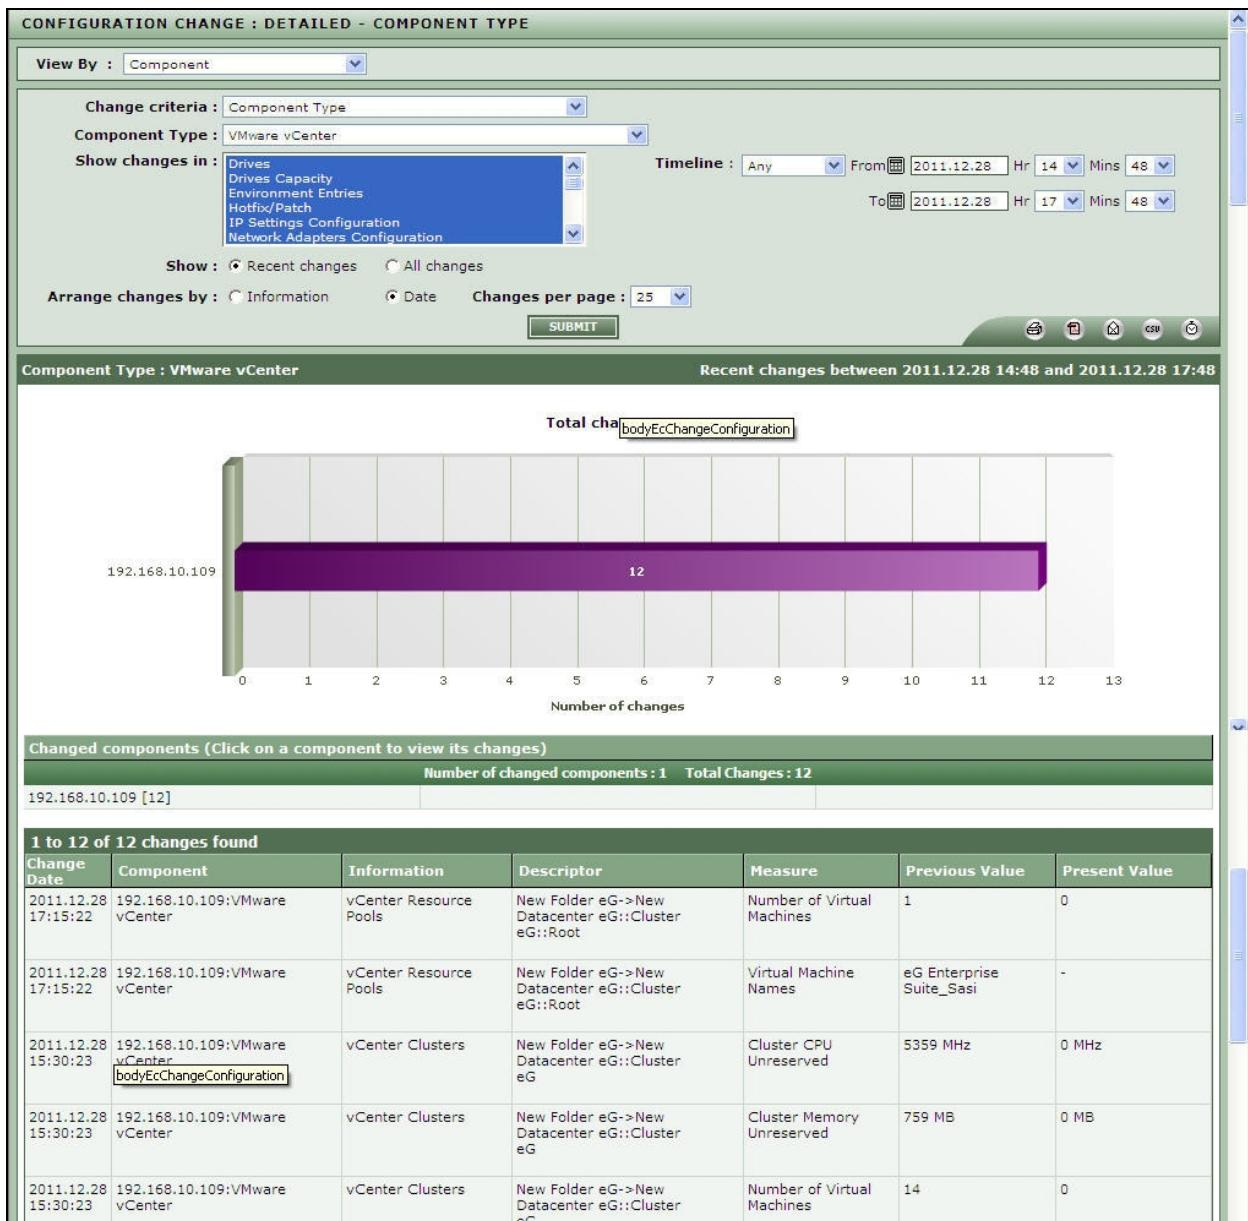

Figure 4.5: Viewing configuration changes for a specific component type
1. Select **Component Type** from the **Change criteria** list box as depicted in Figure 4.5. This will invoke **Component Type** list box. Select a component type from the **Component Type** list box, for which you would like to view the configuration changes.
4. Next select a timeperiod from the **Timeline** list box as depicted in Figure 4.5. Using this option, you can view the configuration changes that were effected on the basis of days, weeks and hours. The maximum duration of period available in this list box is 1 month. If your requirement is not available in this list box, then select **Any** option from the **Timeline** list box. This will invoke the calender capability to which, you can select choice of your date using the **From** and **To** fields that are available.
8. Finally, click the **SUBMIT** button (see Figure 4.5).